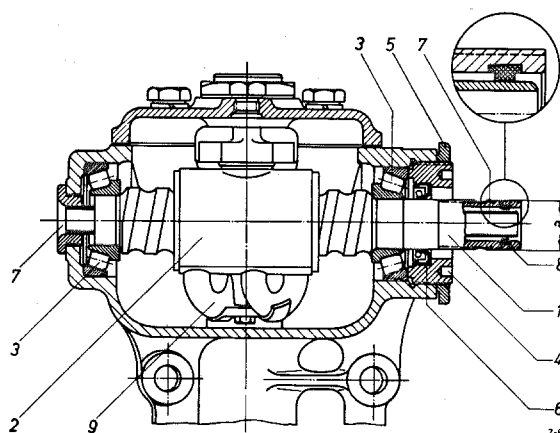

Fig. 46 — 4/5
14. Remove the sealing ring (8) for the cable guide tube from the steering worm.
15. Then tap out the grease seal (6) from the adjusting ring (4) (Fig. 46 — 4/5) and the grease seal (10) for the steering shaft (1) (see Fig. 46 — 4/6) from the steering housing.